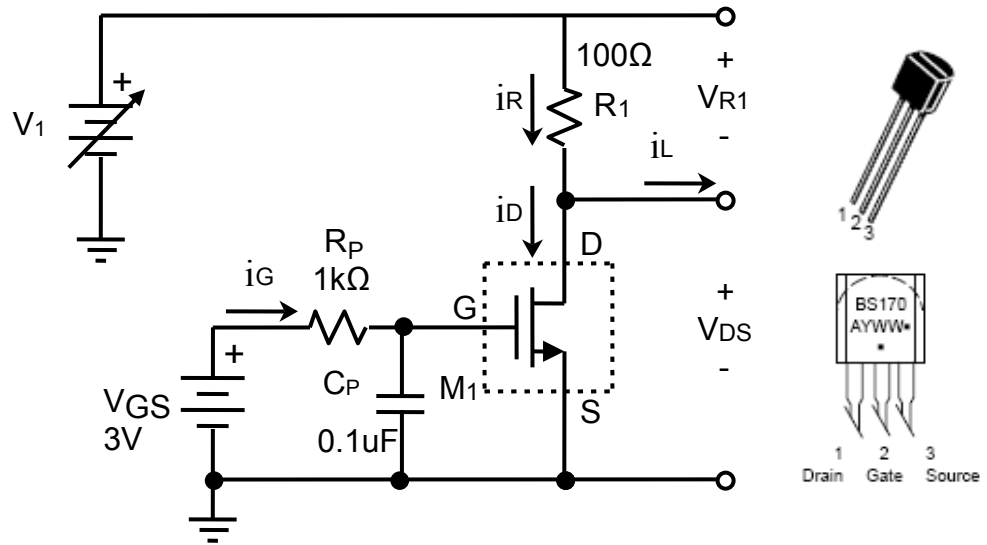
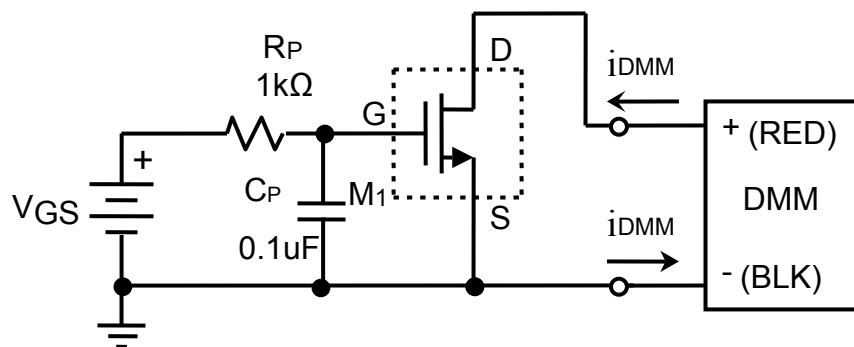

Figure 3-1.
Figure 3-2.
- L1. Using the BS170 MOSFET, build the circuit shown in Fig. 3-1. Notice that TWO power supplies are used in this circuit: V_{GS} , set to a FIXED 3V and V_1 which will be varied. The voltage across resistor R_1 will then be used to determine the current i_D in the circuit.
L5. Modify the circuit of Fig. 3-1 as shown in Fig. 3-2, to use the DMM in ohmmeter mode to measure the on resistance r_{DS} directly. As you vary v_{GS} , you will see variation in the on resistance.
- (1) Unfortunately, this part requires lots of DMM lead swapping and button clicking – you need to measure the on resistance r_{DS} between the drain and source terminals (DMM as ohmmeter), but also the applied gate-source voltage v_{GS} (DMM as voltmeter). Keep the DMM negative (- or black) lead attached to ground; just swap the positive (+ or red) lead. Since the currents flowing in this circuit are relatively small, you don't need to turn power off when changing the lead configuration - save time in the lab!
- (2) It's important to observe the DMM lead polarity shown in Fig. 3-2. If the DMM connection is reversed, the DMM current i_{DMM} will forward bias the substrate-to-drain diode when $V_{GS} < V_t$.
- (3) The turn-on resistance of the BS170 can be as low as 5Ω . Therefore, choose a low resistance range for the DMM that measures the resistance to at least 3 significant figures. If using a meter with an “autoscale” feature, switch the meter to MANUAL mode, so it does not automatically change ranges. If possible, stay in one range for consistency.